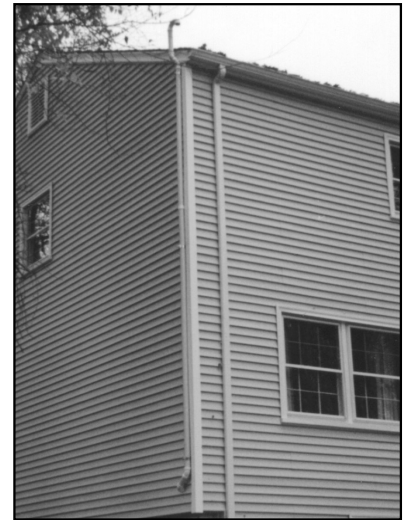

Figure 11
3. The vent line must be routed in a manner that allows the system to exhaust above the level of the roof (see Fig. 11).